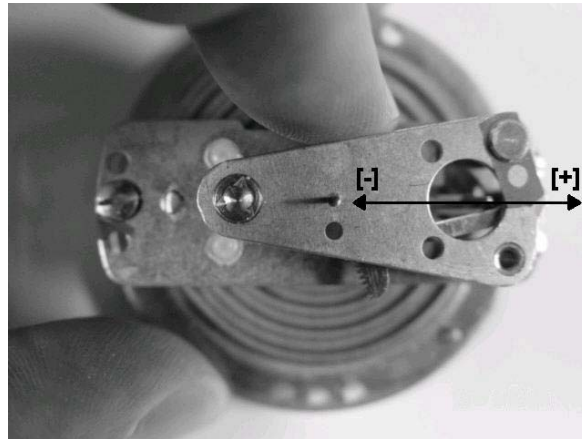

Figure 3-4. S&K span adjustment.
22. If the span is too low, using calibration tool (T18816), bend the adjustment pin away from pinion parallel to gear sector arm. Change pressure to 0 mmHg. Make sure to re-adjust the test dial so that the pointer will be slightly left of the graduation line. Re-pressurize to 320 mmHg then to 300 mmHg to evaluate the effects of the adjustment. See Figure 3-4.
23. If the span is too high, using calibration tool (T18816), bend the adjustment pin towards the pinion parallel to the gear sector when pressurized at 300 mmHg. Change the pressure to 0 mmHg. Make sure to re-adjust the test dial so that the pointer will be slightly left of the graduation line. Re-pressurize to 320 mmHg then to 300 mmHg to evaluate effects of adjustment. See Figure 3-4.